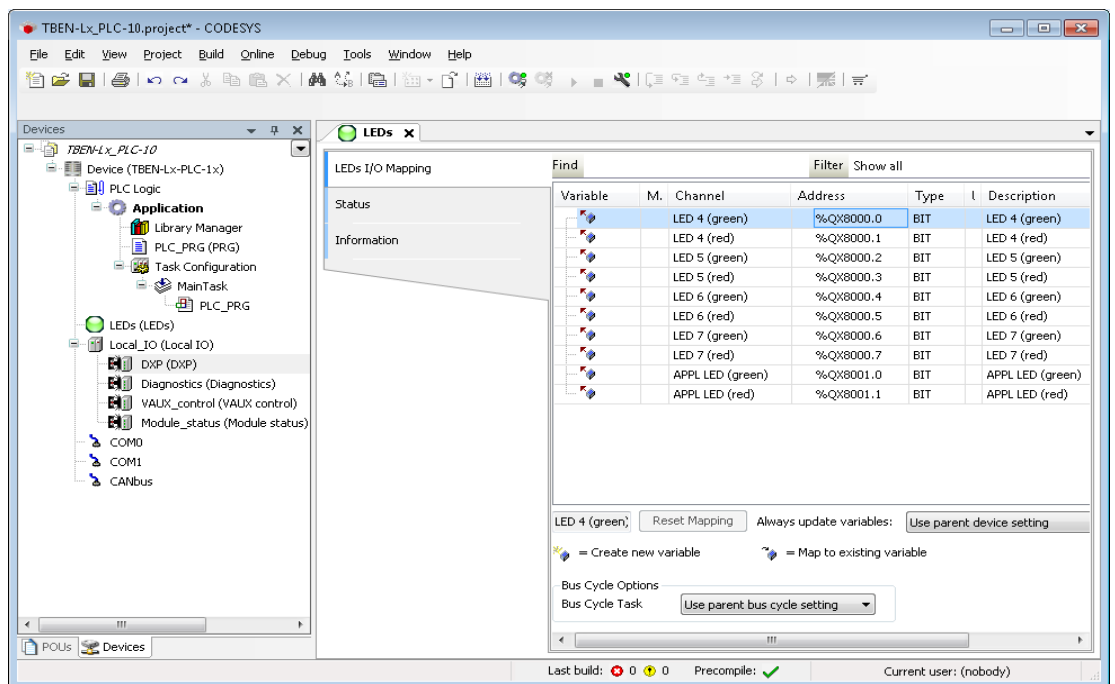

Fig. 3: CODESYS project
- Each LED uses 2 bit in the process output data of the device. They are automatically mapped to the output bits %QX8000.0 to QX8001.1 (see **Fig. 3: CODESYS project (page 6)**).